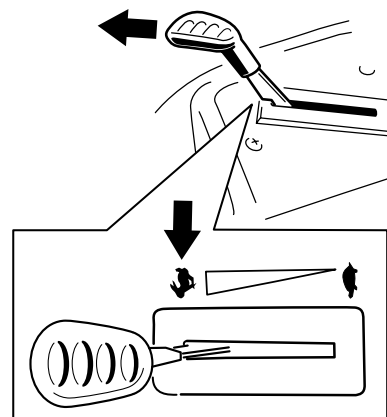

Figure 14
**Note:** Always engage the blades with the throttle in the FAST position (Figure 14).